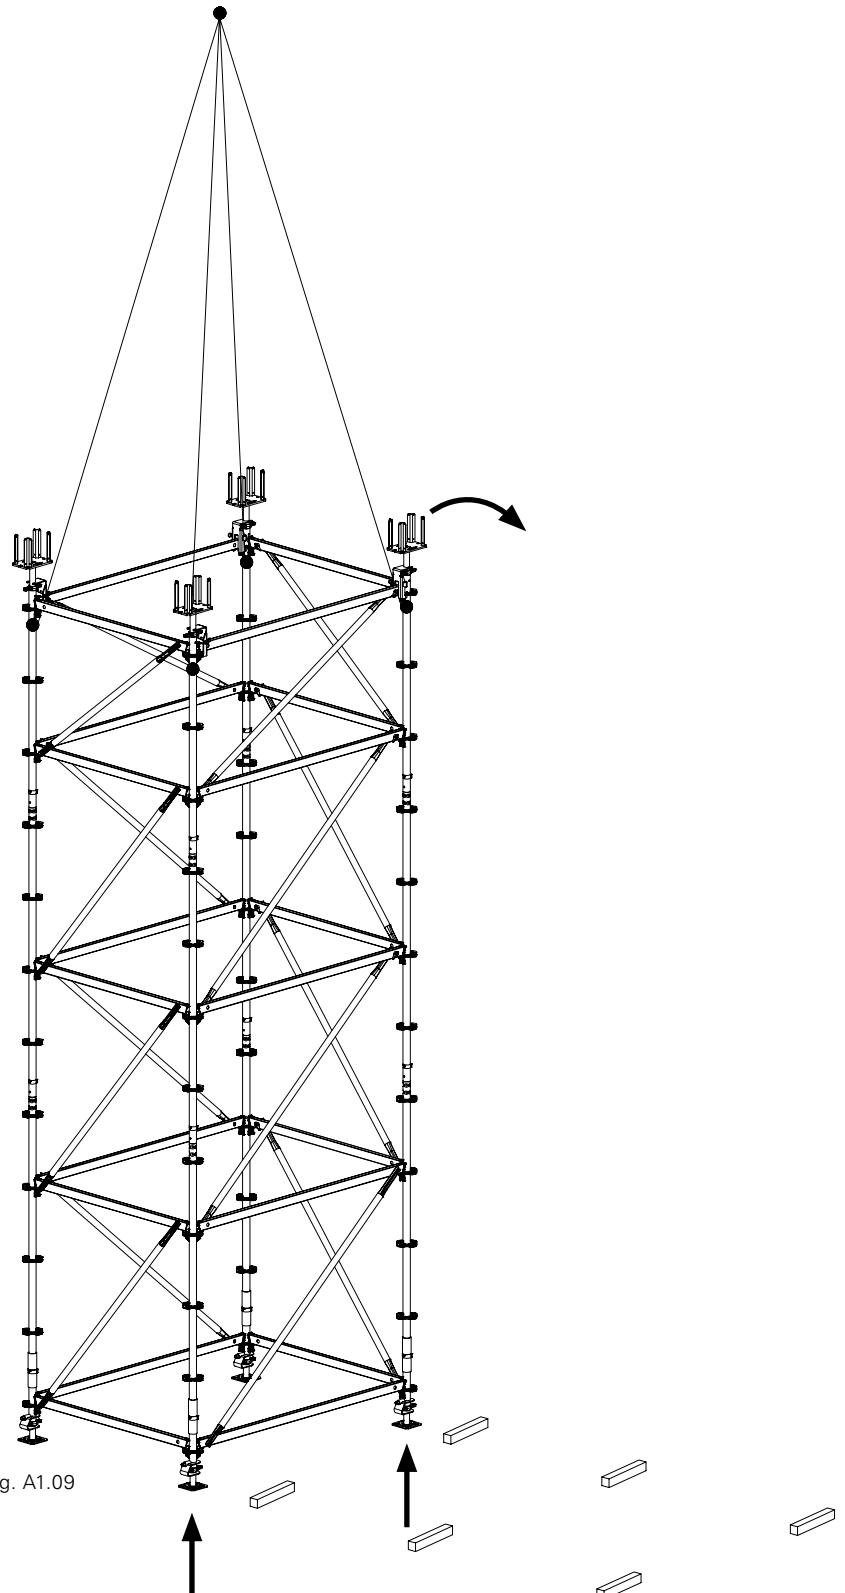

Fig. A1.09
1. Place four chains or textile lifting slings, e.g. round slings, underneath those rosette nodes complete with Ledgers, and attach to the crane lifting gear. (Fig. A1.09)